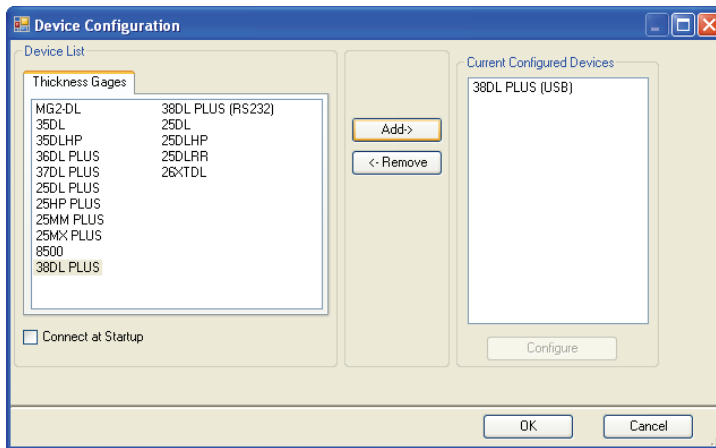

Figure 14-7 The Device Configuration dialog box
- b) In the **Device Configuration** dialog box (see Figure 14-7 on page 248):
- (1) In the **Device List**, select 38DL PLUS, and then click **Add**.